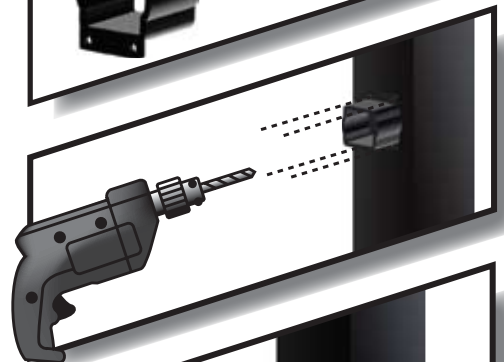

Figure 4
- 7.) Install $\frac{3}{4}$ " screws (included) to attach bracket to post *Figure 4*.